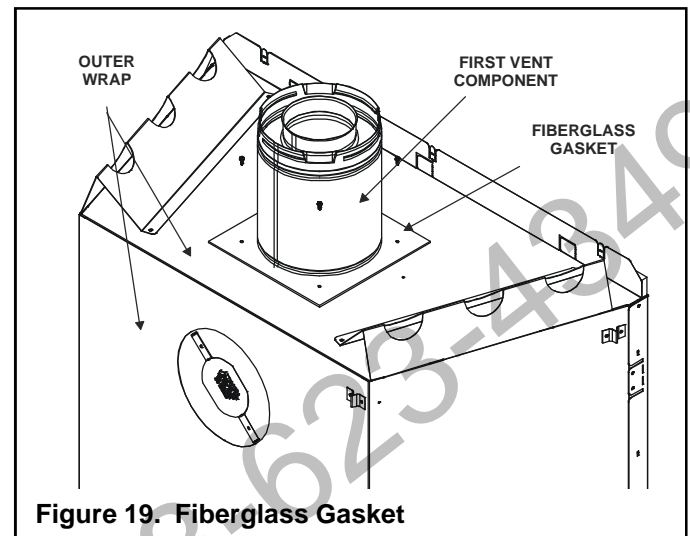

Figure 19. Fiberglass Gasket
- Apply a 3/8 inch (9.5mm) bead of stove cement around the 5 inch (127mm) fireplace starting collar (see Figure 19).
- Make sure that the fiberglass gasket supplied in the manual bag seals between the first 8-5/8 inch (219mm) vent component and the outer fireplace wrap. Using 2 self-tapping screws from the manual bag, secure that gasket to the outer wrap (see Figure 19).